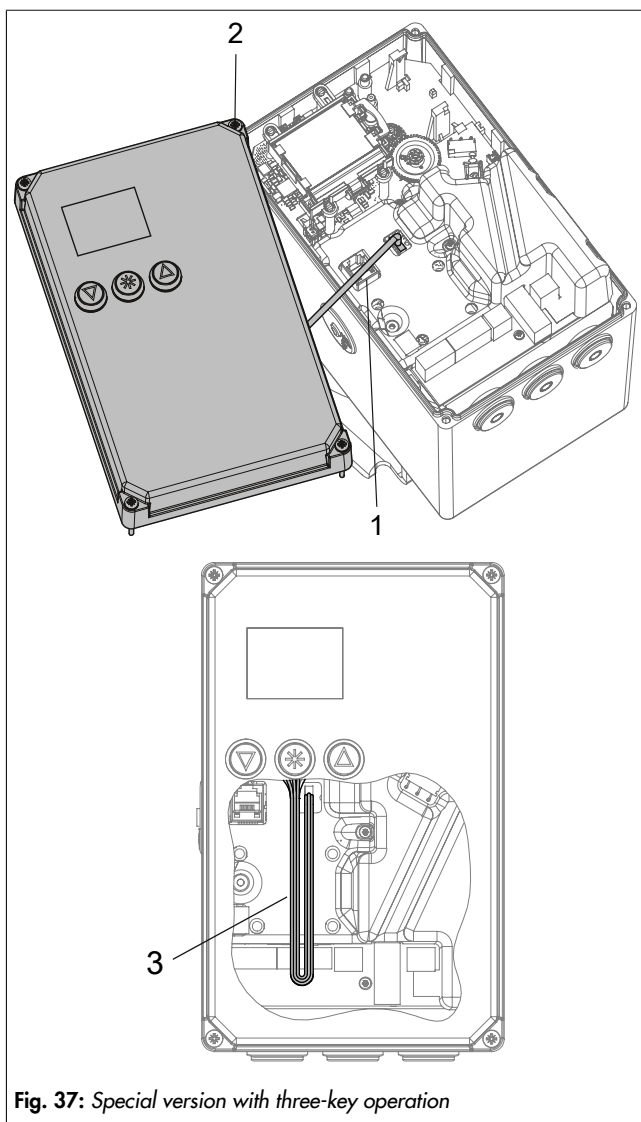

Fig. 37: Special version with three-key operation
- ⇒ Fasten the housing cover to the housing before performing work on the actuator (see Fig. 37).
⇒ See Fig. 37.
- ⇒ Make sure the connecting cables (1) of the housing cover are not damaged by tensile load.
2. Move the housing cover to the position as shown in Fig. 37.
3. Place on cover. Briefly turn the screw (2) counterclockwise to center it. Tighten it slightly.
5. Loosen the screw (2), while holding the housing cover to ensure the connecting cables (1) of the housing cover do not get damaged by tensile load.
6. Place the housing cover on the housing and route the connecting lines in the housing as shown in Fig. 37.